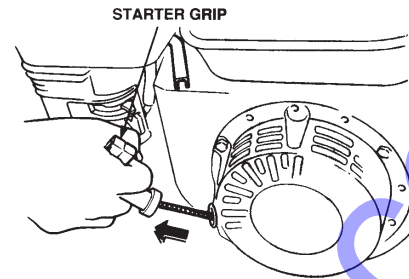

Figure 19. Starter Grip
- Grasp the **starter grip** (Figure 19) and slowly pull it out. The resistance becomes the hardest at a certain position, corresponding to the compression point. Pull the starter grip briskly and smoothly for starting.